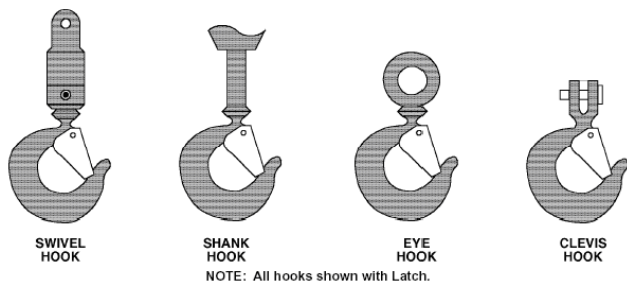

Figure 11.1: Types of load hooks
- Hooks shall be equipped with functioning hook latches (Figure 11.1).